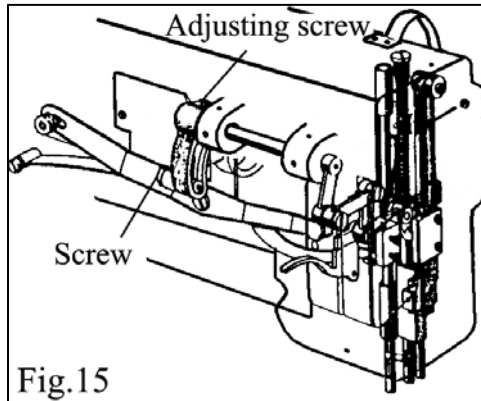

Fig.15
11. Walking foot and presser foot vertical stroke adjustment (Fig.15)